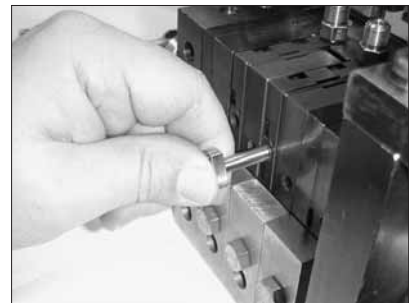

Figure 7-110 Removing a pressure transducer plug (pump location shown)
2. See Figure 7-110. Using a 2.5-mm hex wench, remove the plug where the transducer is to be installed. Do not remove the adapter in which the plug is installed.